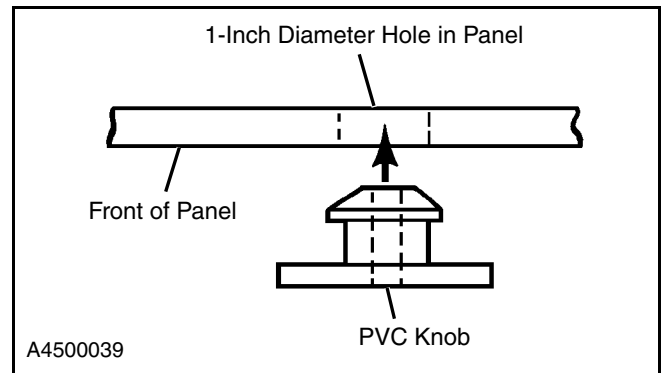

Figure 24
4. Drill 1-inch diameter holes in the panels. Use a hole saw or wood spade bit. The holes should be drilled from the front of the door. (See Figure 24.)
5. Insert the small end of the knob(s) into the holes from the front of the door. Press into place. (See Figure 24.)